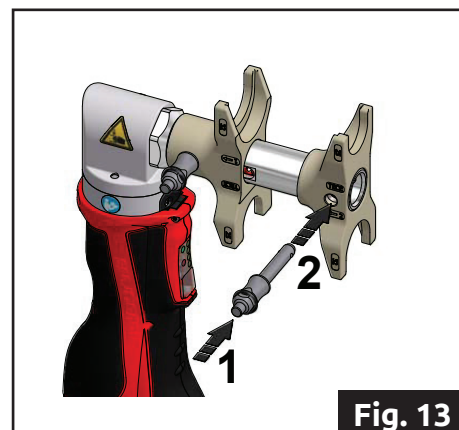

Fig. 13
6. Push the pusher adapter with the inscription 2 onto the guide rod in the direction of the arrow and lock it using the bolt (fig. 13).